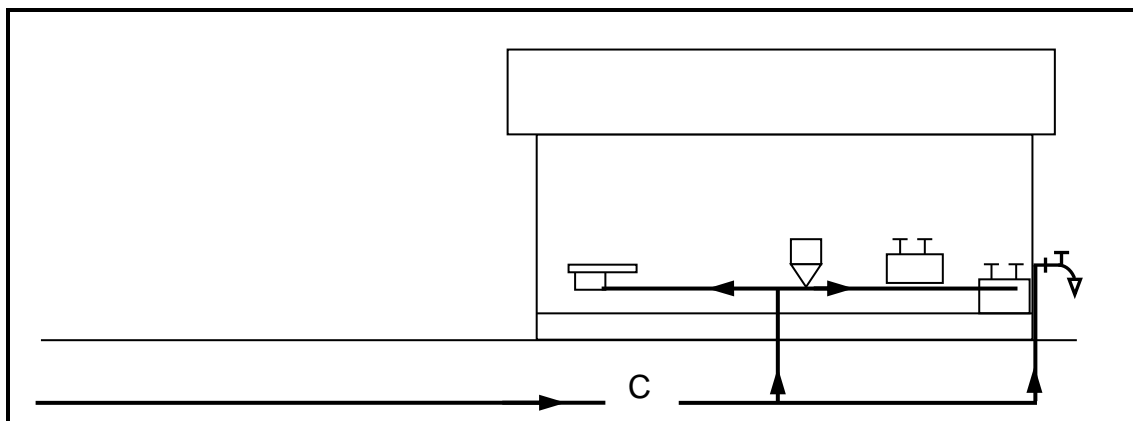

FIGURE 5.6
- 5.6 FIGURE 5.6 shows the front elevation of the cold-water supply from the water meter to a house on scale 1 mm = 100 mm. The main cold-water pipe has a diameter of 22 mm and the branch pipes have a diameter of 15 mm. Study the drawing and determine the material needed for the plumbing installation by completing the table.